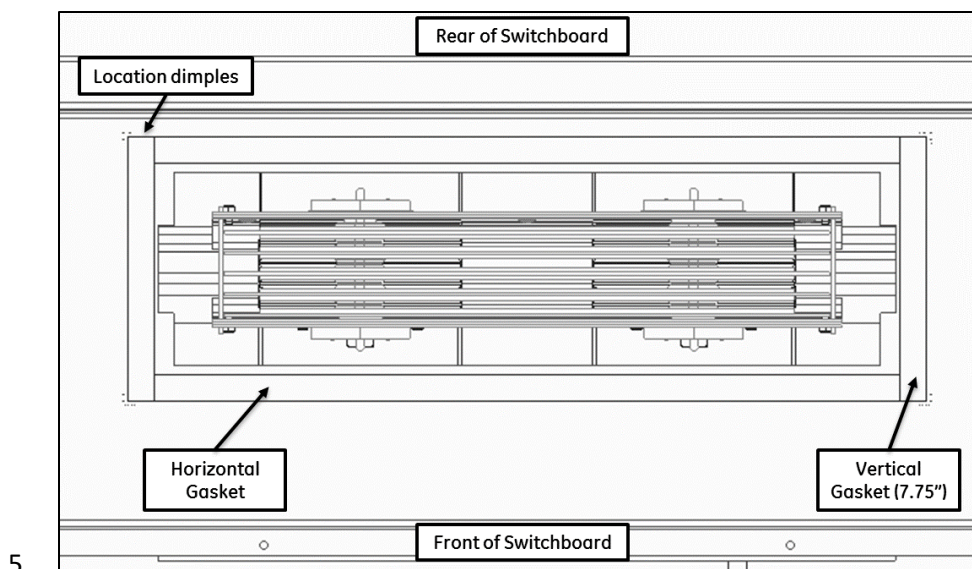

Figure 4. Application of Gasket
- Cut the supplied gasket into (4) total strips – (2) shorter to be applied in the vertical direction and (2) longer to be applied in the horizontal direction (Fig. 4)
- Apply the gasket to the clean surface of the switchboard using the gasket locator dimples shown in Fig. 4.